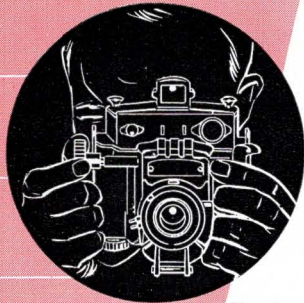

Fig. 6
The left hand of the operator should hold the camera firmly by the convenient handle (10) attached to the left side. The trigger finger of the left hand should be placed in front of the release lever (9). The thumb of the left hand should be placed in the thumb rest at the left upper corner of the camera back. The thumb and trigger fingers of the right hand should actuate the focusing control (11) while the Autofilm Transport (16) should rest on the lower part of the right hand thumb. The camera should then be pressed firmly against the face of the operator in such a position that one of his eyes can observe either the range finder or the view finder. These conditions are shown in Figures 6, 7, and 8.